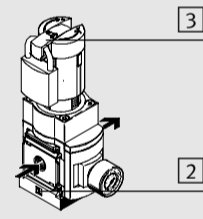

Fig. 3
- Note the direction of flow from 1 to 2. The figures [2] on the product housing serve as an orientation (→ Fig. 3).
- Place the MS6-LRP(B) so that there is sufficient space for the following activities: